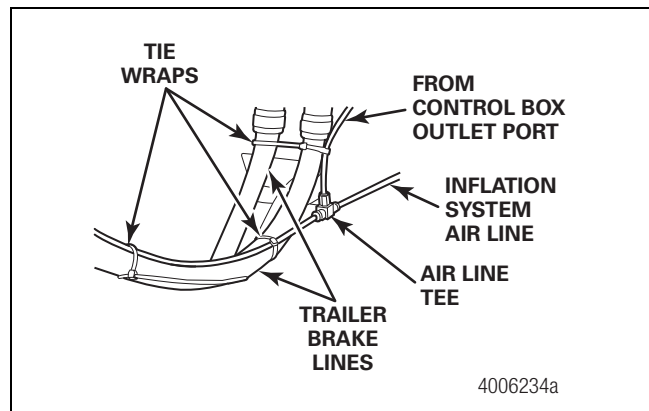

Figure 2.61
2. Route an air line from the control box outlet port to the air line tee. Suspend the tee AWAY from the trailer brake lines to protect these lines from damage. Figure 2.61. Hand-tighten the air line fittings, then use a 9/16-inch wrench to tighten them approximately one additional turn to obtain an airtight seal.